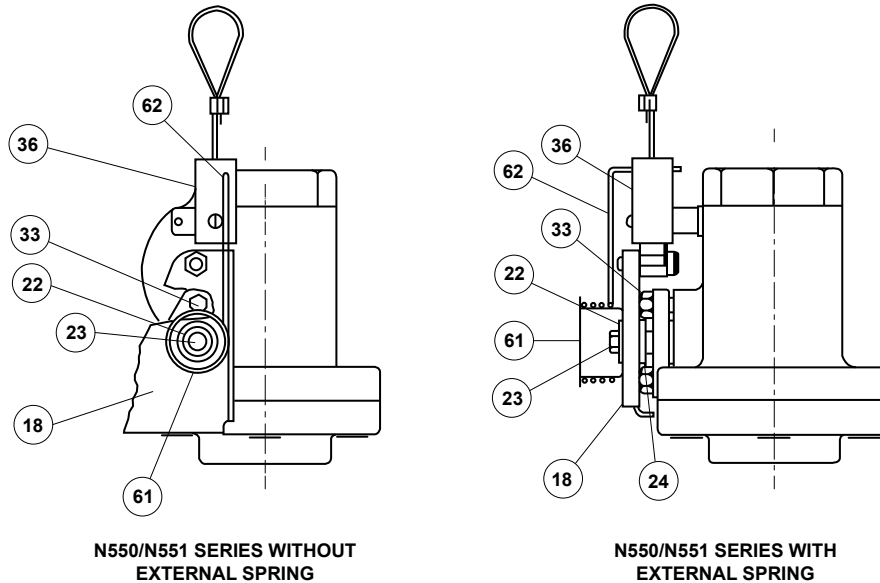

Figure 2. N550/N551 Series Valve Prior to Mounting Type P539
Refer to Figure 2, **for units with an external spring:** Remove the bolt (key 23), spring mandrel (key 61), the external spring (key 62), fuse link (key 22), operating lever (key 18), latch block (key 36) and the rear gland bolt (key 33). **KEEP THE BOLTS (keys 23 and 33) AND THE RETAINER (key 24).**
Refer to Figure 2, **for units without an external spring:** Remove the latch block (key 36), fuse link (key 22), bolt (key 23), operating lever (key 18) and the rear gland bolt (key 33). **KEEP THE BOLTS (keys 23 and 33) AND THE RETAINER (key 24).**